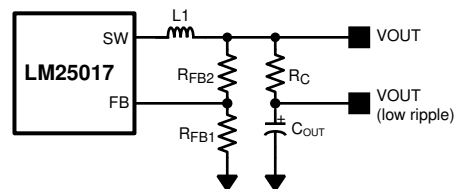

図 7-1. Low Ripple Output Configuration
This regulator regulates the output voltage based on ripple voltage at the feedback input, requiring a minimum amount of ESR for the output capacitor (C_{OUT}). A minimum of 25-mV ripple voltage at the feedback pin (FB) is required for the LM25017 device. In cases where the capacitor ESR is too small, additional series resistance may be required (R_C in 図 7-1).
For applications where lower output voltage ripple is required, the output can be taken directly from a low ESR output capacitor, as shown in 図 7-1. However, R_C slightly degrades the load regulation.